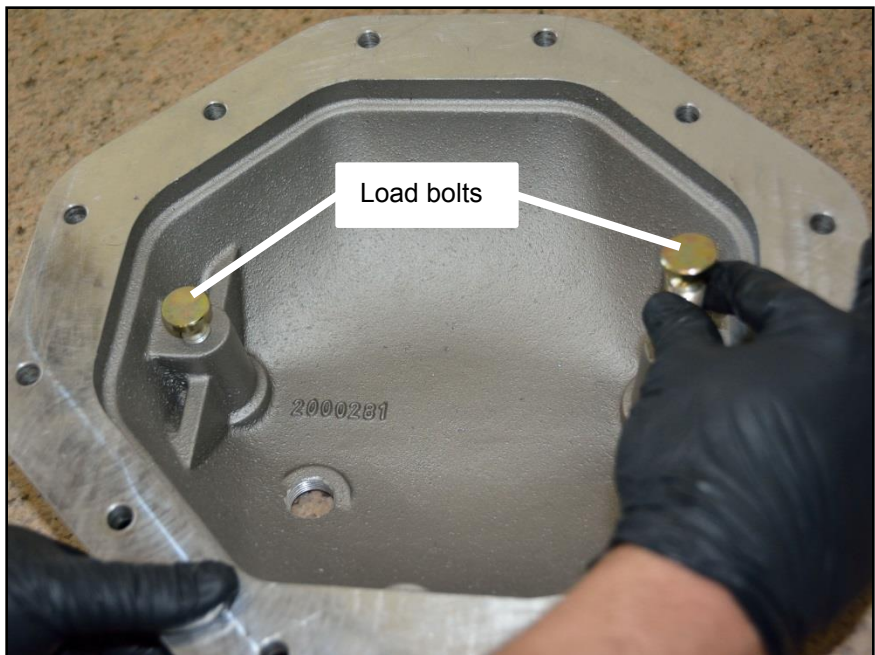

Figure 3
STEP 10. Install the supplied load bolts in each boss from the inside of the **B&M Cast Aluminum Rear End Cover** until they bottom out (See Figure 3 & 4).